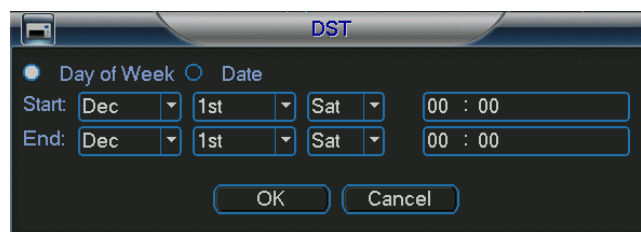
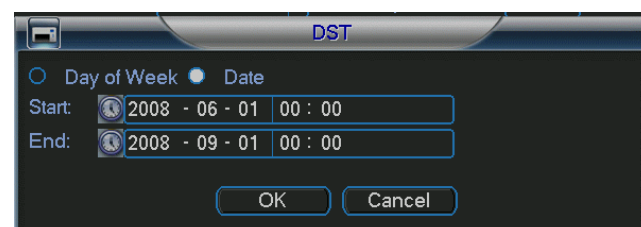

Figure 5-4
Figure 5-5
- DST: Here you can set DST time and date. Enable the DST function and then click set. You can see an interface is shown as in Figure 5-4. Here you can set the start time and end time by setting the corresponding week setup. In Figure 5-4, click date button, you can see an interface is shown as in Figure 5-5. Here you can set the start time and end time by setting the corresponding date setup.